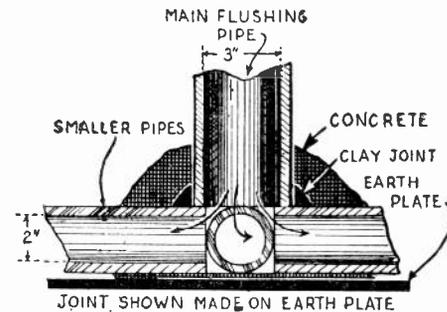

Fig. 3. Showing how the five pipes are joined to prevent leakage.
to about an inch from the top and then connect your apparatus as indicated in Fig. 3.
For those who do not readily understand the wiring diagram of Fig. 4, the complete view of the apparatus in Fig. 3 will help illustrate more clearly the method of connections. Thus an aluminum from one jar is connected with a lead from another jar to one side of the house current line. Then the other side of the line is connected to an aluminum and a lead plate from the other two jars, as in the first case, but in series with a resistance (R) placed at S. This leaves two aluminums and two leads free, the two lead plates connected together forming the negative (-) terminal of the charging side, while the two aluminum plates are likewise connected and form the positive (+) terminal of the D.C. side.
The size of the resistance is dependent upon the battery to be charged. If an "A" battery is used, an electric-iron plug is screwed into the socket (S), Fig. 3. If none is handy, then the following idea may be of interest, also because of its economy. Extract a single fuse from the box in the cellar, and insert a plug from a light cord whose other end terminates in a plug screwed into the socket (S). Now, by going upstairs and switching on a half-dozen lights or so in the house, you can, besides charging your battery in the cellar, also peruse leisurely the evening paper in the parlor, on the same electric bill.
Constructional details and wiring diagram of the "A-and-B"-battery charger. The rectifier is of the electrolytic type, employing aluminum and lead plates. The amount of current delivered is dependent on the size of the lamp, or other form of resistance inserted into the socket S shown in Fig. 3. R in Fig. 4 represents the resistance placed in series with the circuit to control the current flow. This corresponds to S in Fig. 3.
Care must be taken to get a really sound joint between the upright main pipe and the four smaller ones. (See Fig. 3). The